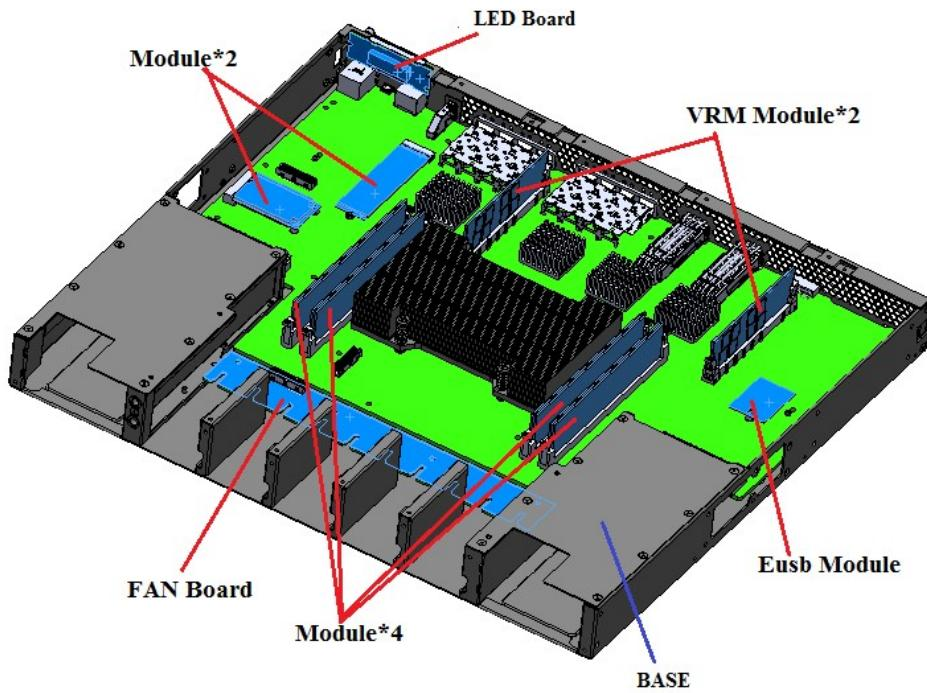

Figure 6: Remove all heatsink on main board, total 5pcs.
8. Use Flat screw driver and P1 Phillips screw driver to remove all heatsink on main board. (see Figure 6).